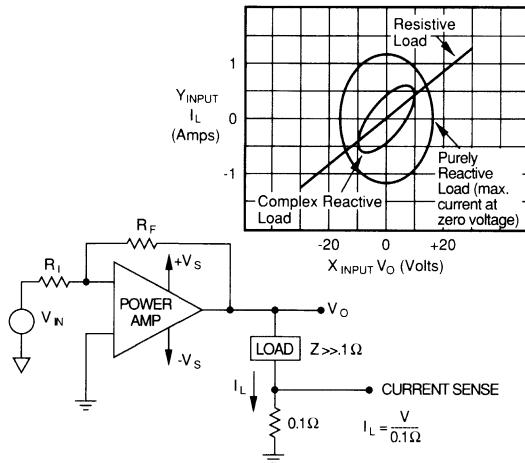

FIGURE 9. AC PD_{OUT} : ELECTRICAL MEASUREMENT METHOD #2
- 4) Plot the points on the SOA curve and check for violations. Refer to Figure 9 for test set-up details.